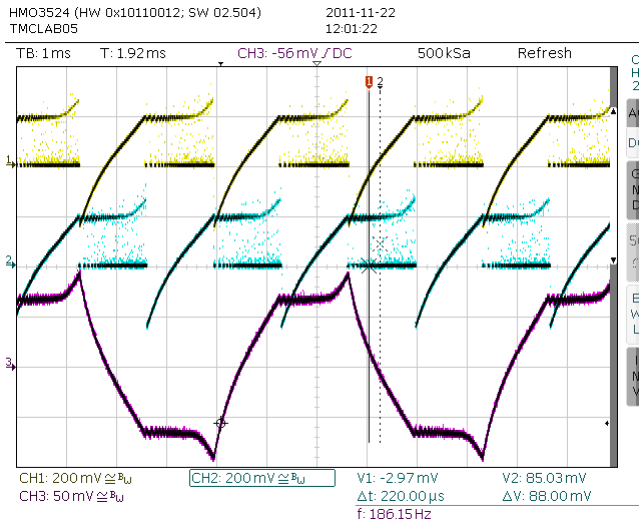

Figure 6 Motor operation in fullstep with slow decay only (CHM=1)
3. As fullstepping does not require high precision chopper operation, you can try to switch to slow decay only chopper – compare Figure 6, e.g. by setting *vhighchm* (for TMC5XXX drivers).